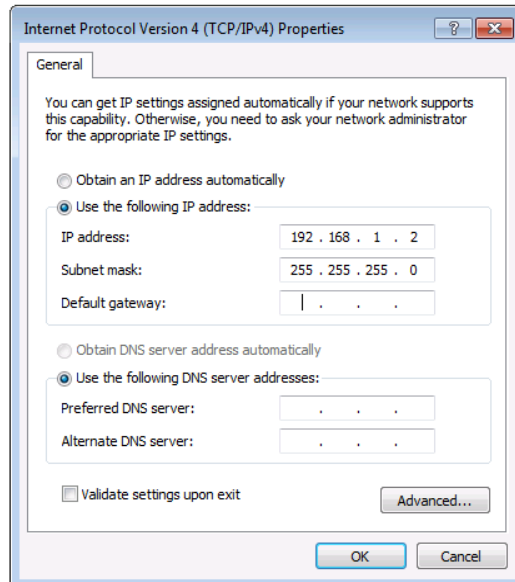

Figure 17: Internet Protocol Properties Window
- 6. Select **Use the following IP Address** for static IP addressing and fill in the details as shown in Figure 17.